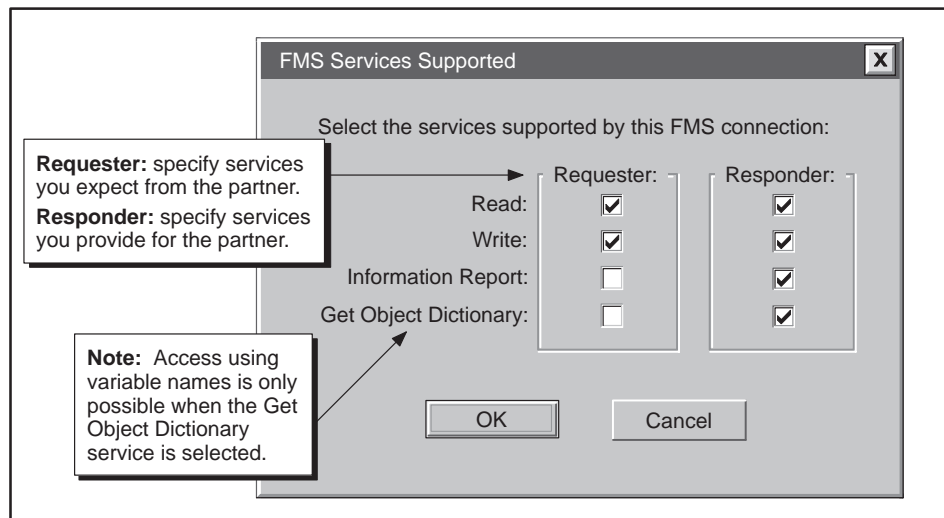

Figure 5-15 FMS Services Supported Dialog Box
**Services Supported** When you click on the Services Supported field, a button appears in the field. Click on the button to view the Services Supported dialog box (shown in Figure 5-15). Select the services by clicking on the boxes, and then select OK. The dialog box disappears, and the selected services are displayed in the corresponding field.